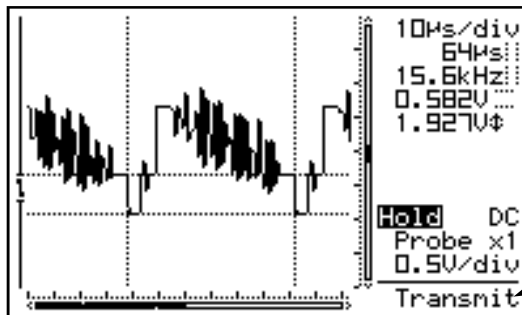

Fig 11
After power on, the unit will send the current data through the USB port (1), see fig. 11 :